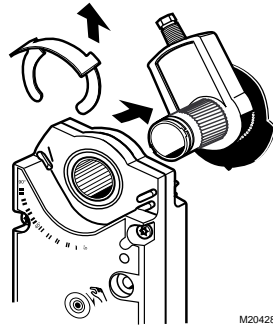

Fig. 1. Remove the locking clip and shaft adapter.
3. Remove and set aside the locking clip (see Fig. 1).